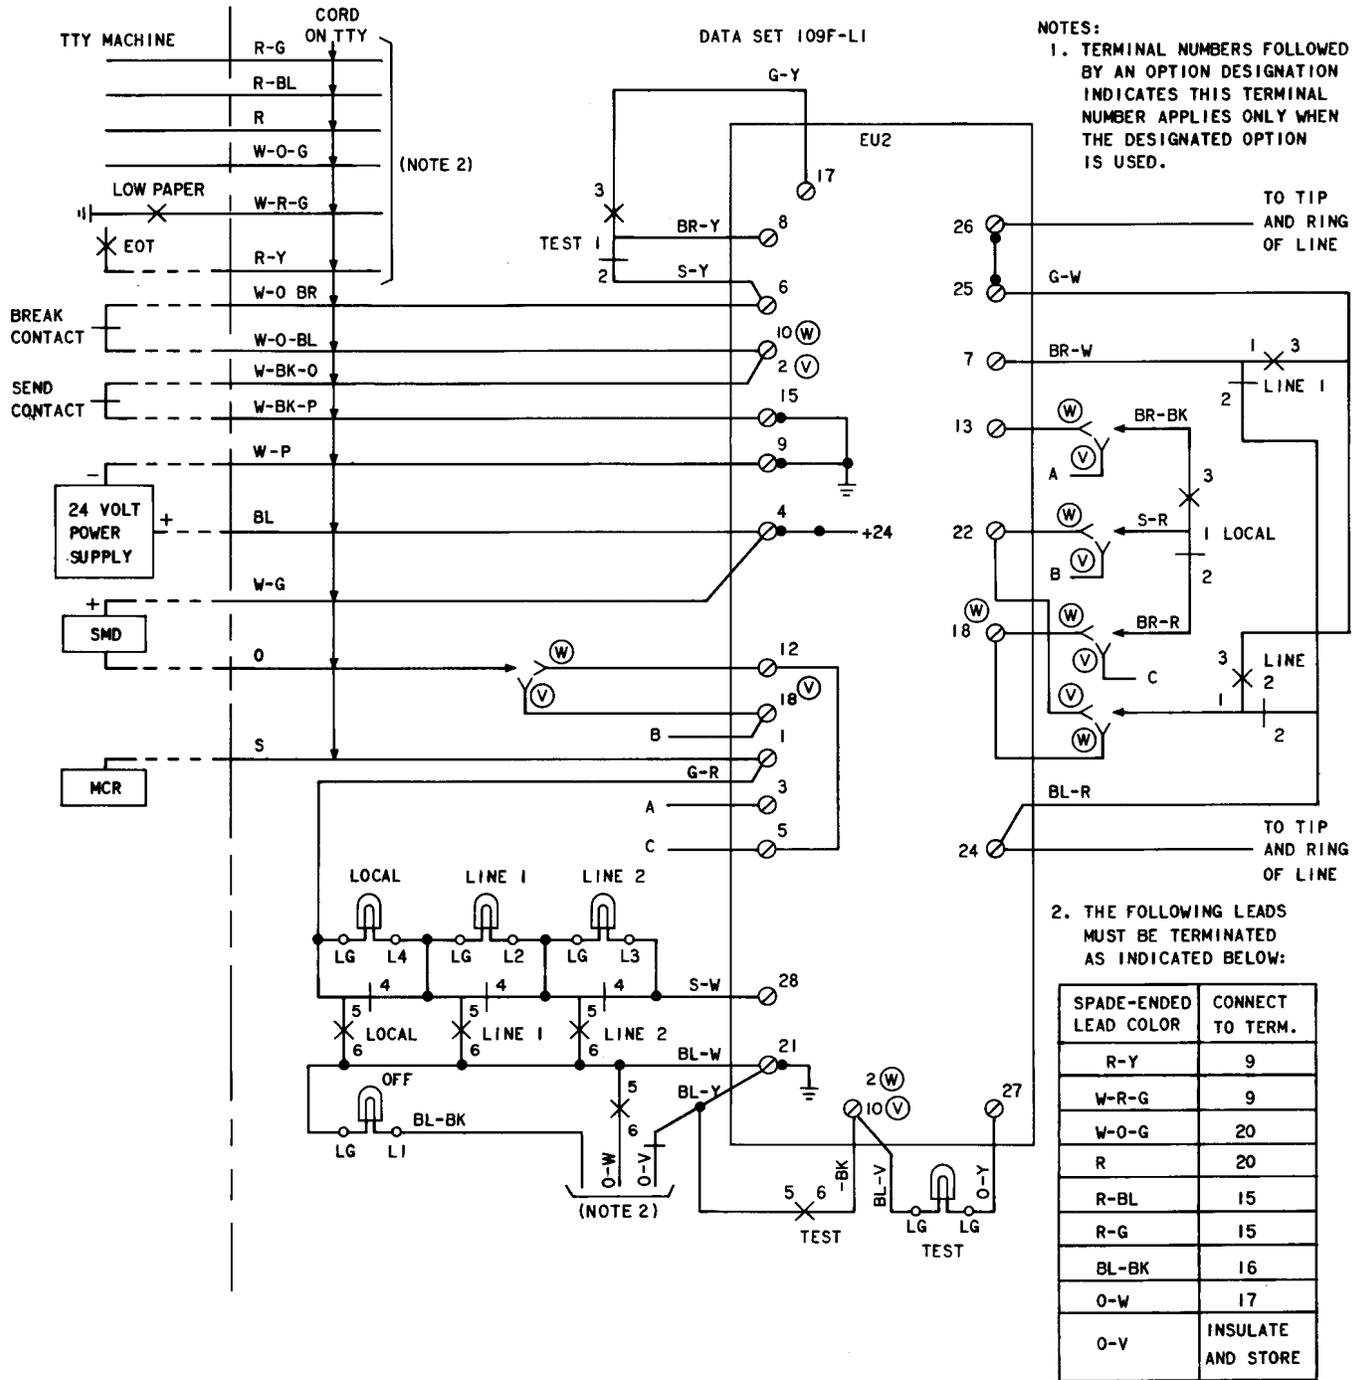

Fig. 1 — Data Set 109F-L1 — DATREX Arrangement
3.05 The physical location of the terminals and leads referred to in wiring Tables C through H and Fig. 1 through 6 are shown by Fig. 7 and 8.